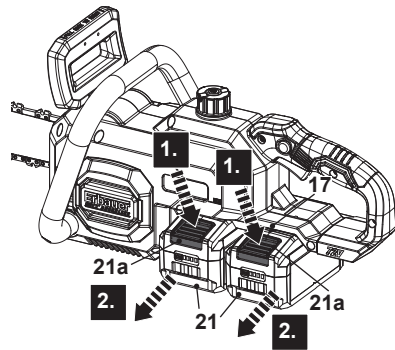

Fig. 14
2. Press the release button (21a) and remove the battery pack (21) from the battery docking port (17) (Fig. 14, steps 1, 2). Repeat this step to remove another battery pack (21).